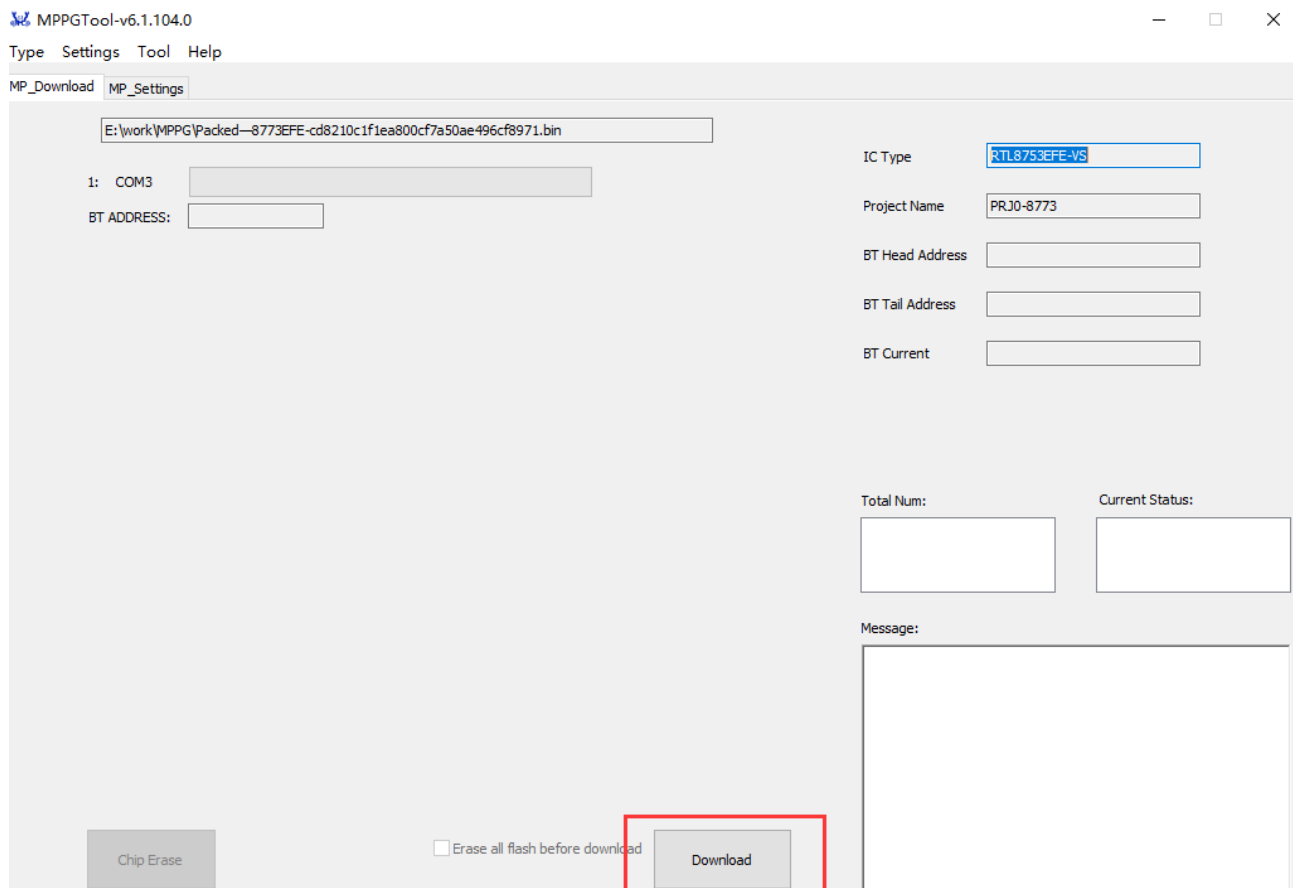

Figure 2-23 Click 'Download' Button in MP_Download page
3. Click the 'Download' button in MP_Download page (Figure 2-23).